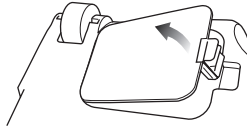

Fig. 13
- 3 Push in the locking tab and lift off the battery compartment cover. (Fig. 13)